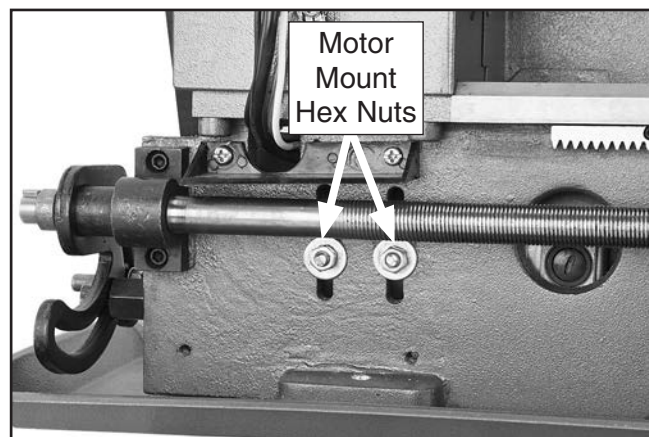

Figure 92. Location of motor mount hex nuts.
6. Loosen motor mount hex nuts shown in **Figure 92**.